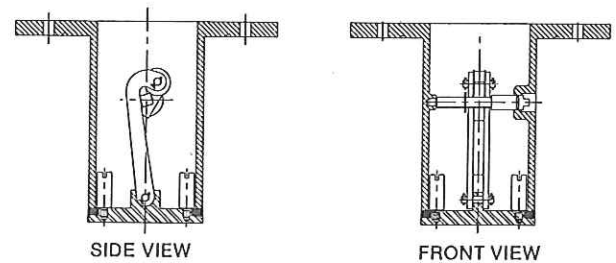

Fig. 38 — Suction Valve Detail
4. If factory-installed suction service valves are installed, open the suction service valves in each circuit. Service valve is located below the compressor in the cooler suction connection flange. To operate the valve, first remove the cap. Use a back-up wrench on the packing gland to prevent loosening while removing cap. Loosen the jam nut. Rotating the valve handle clockwise will close valve and counterclockwise will open valve. When closing the valve, the linkage arm must swing past center of the actuator shaft cam to seat and prevent accidental opening of the valve. Tighten the jam nut. See Fig. 38 and 39.